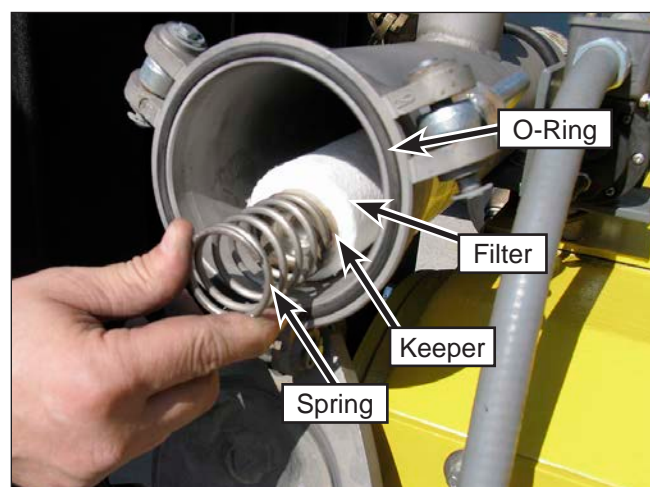

Figure 19: Cartridge Removal.
2. Slowly open the cover and capture the spring (Figure 19) and spring keeper.